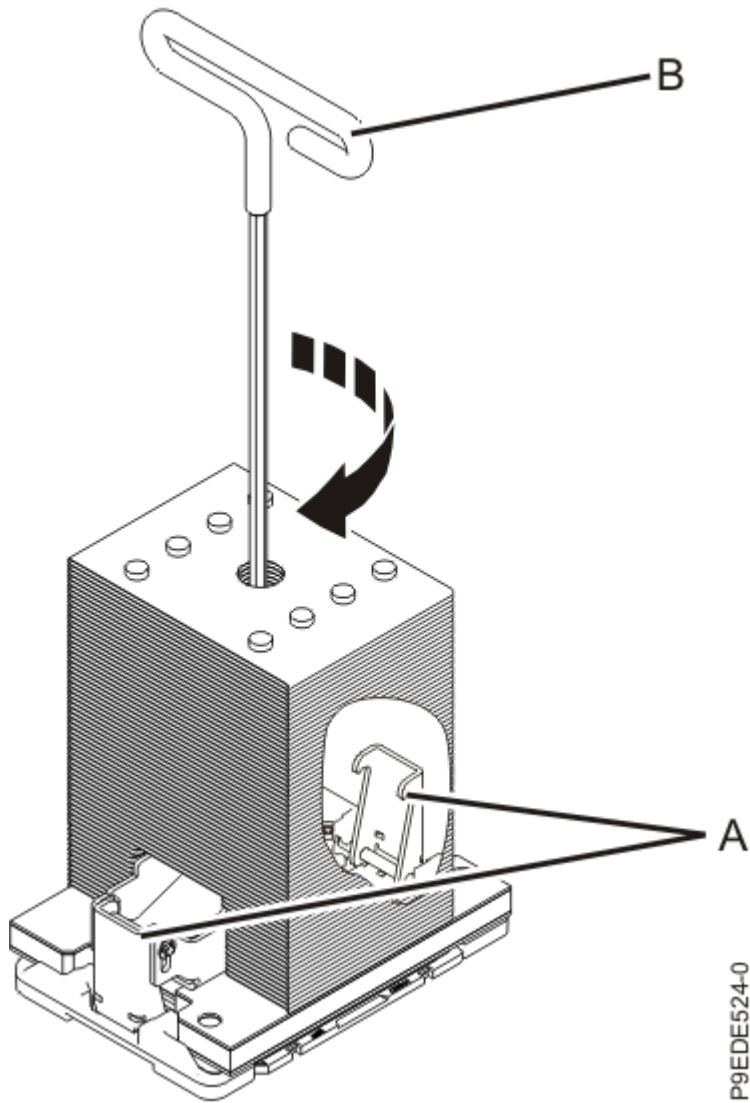

Figure 30. Tightening the center load screw on the heat sink
- a) Ensure that the heat sink load arms are engaged as shown by **(A)** in Figure 30 on page 33.
- b) Tighten the center load screw clockwise by using the supplied hex key as shown by **(B)** in Figure 30 on page 33 until a firm stop is reached. If the heat sink moves noticeably, the load arms are not engaged. Unscrew the center load screw and repeat this step again.